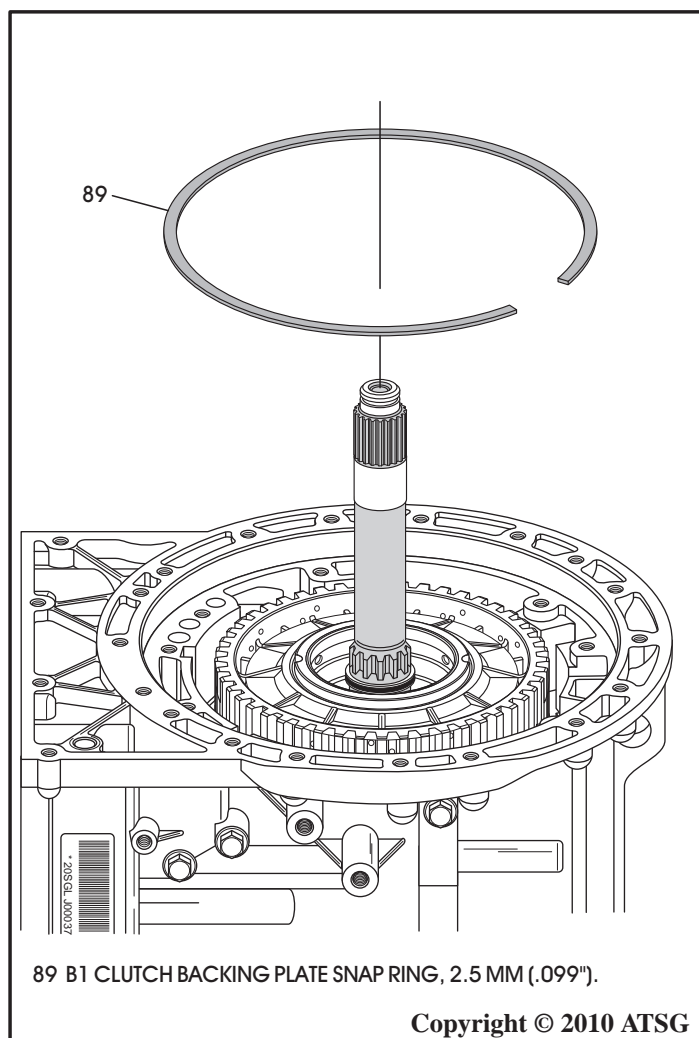

Figure 56
39. Remove the B1 clutch backing plate snap ring from case, as shown in Figure 56.